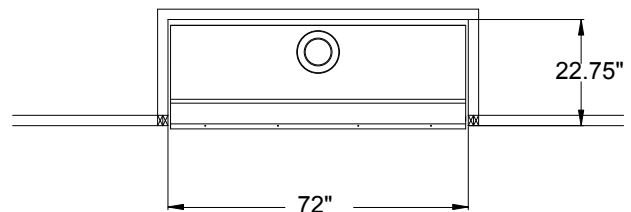
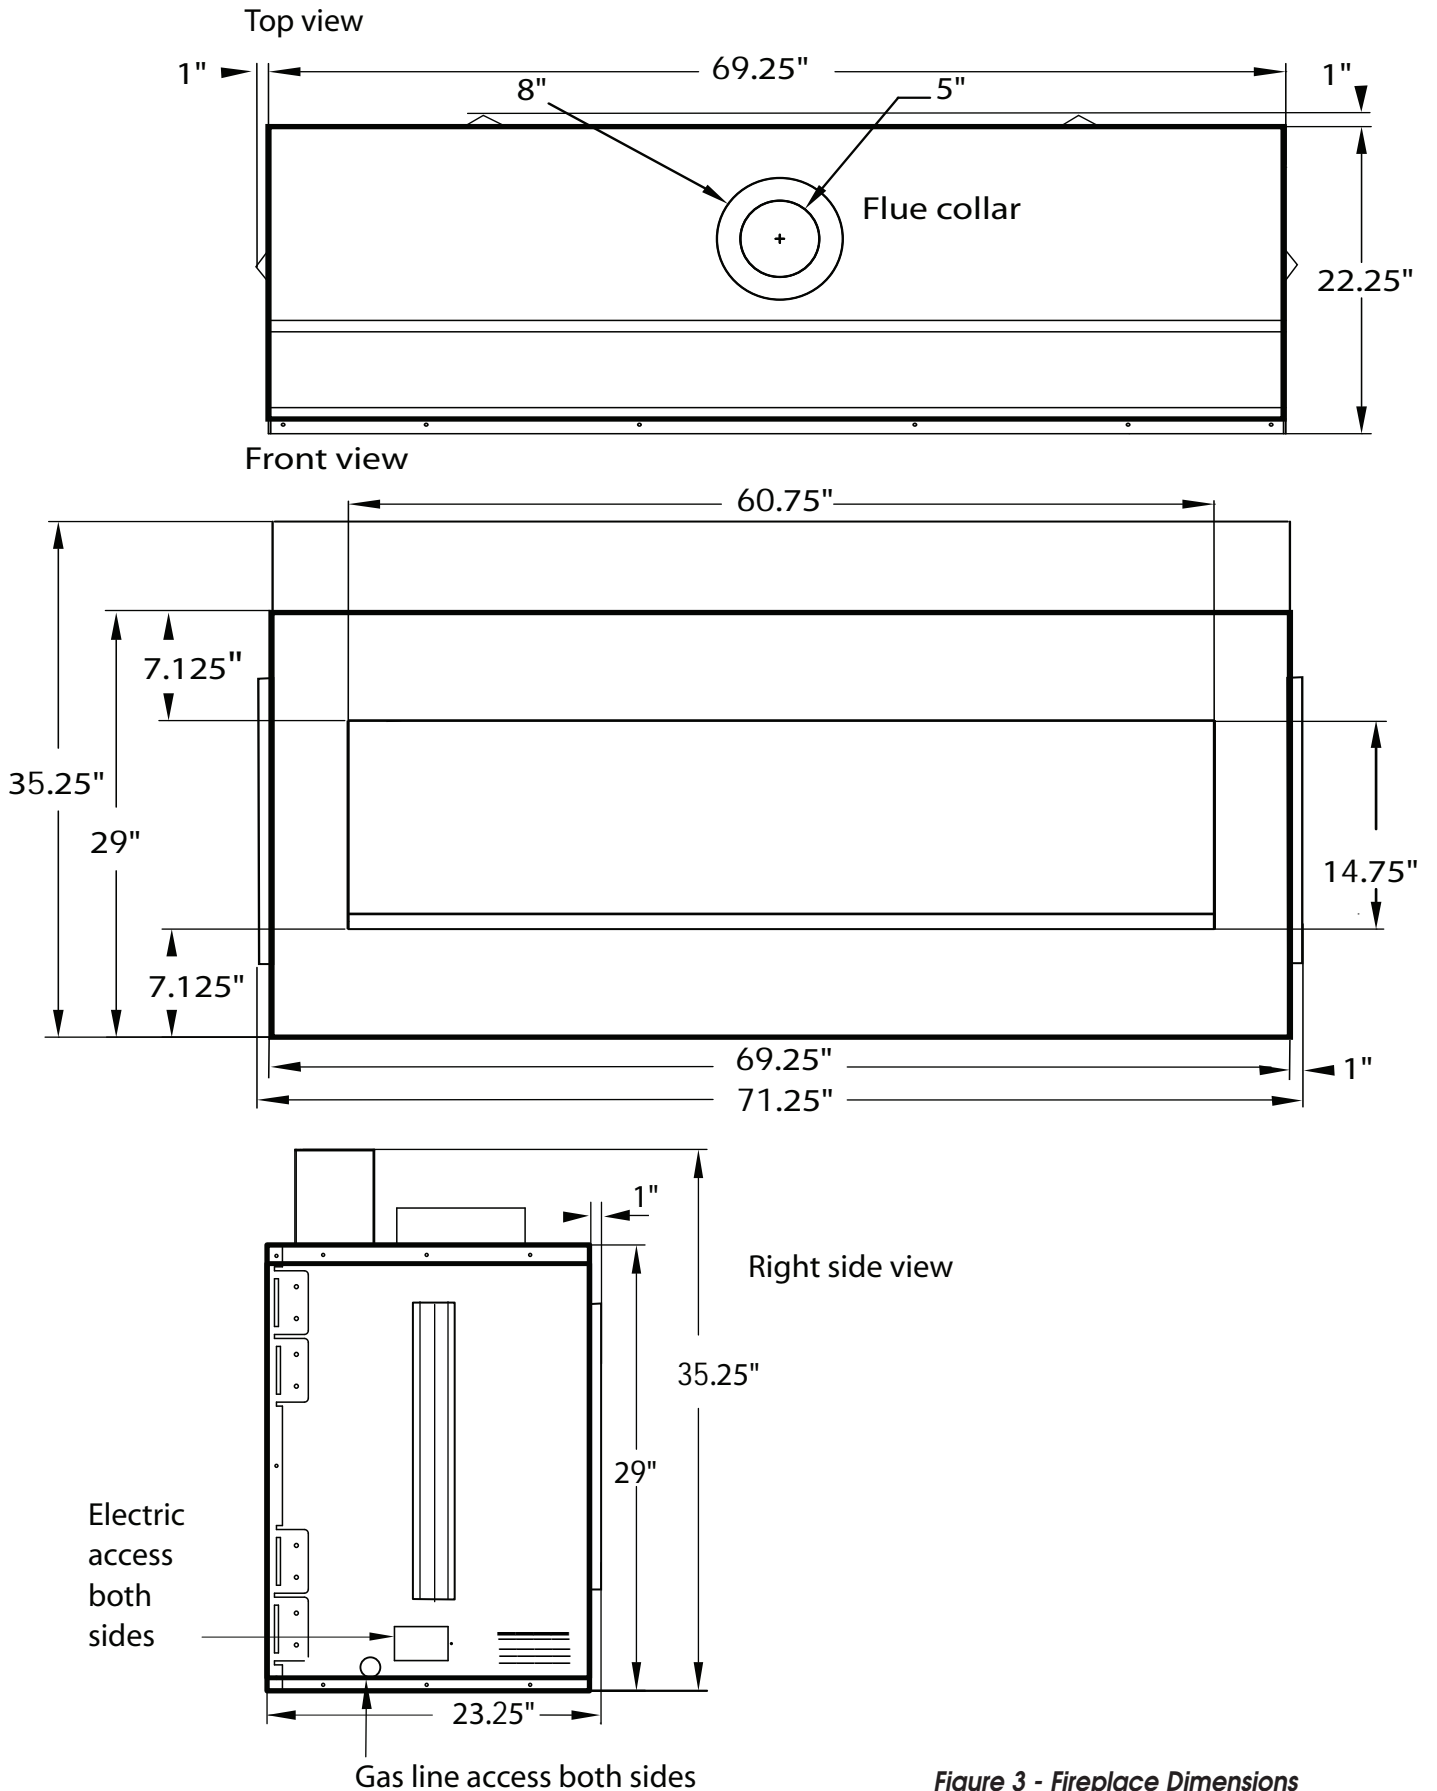

Figure 2 - Framing Dimensions
Figure 3 - Fireplace Dimensions
Firebox framing can be built before or after the appliance is set in place. Construct firebox framing following *Figure 2* and the chart below for your specific installation requirements. See *Figure 3 on Page 8* for firebox dimensions. The framing headers may rest on the top of the firebox standoff.
2. Minimum outside dimensions of the material over the facing are 72" x 35-1/2" (see *Figure 2*).